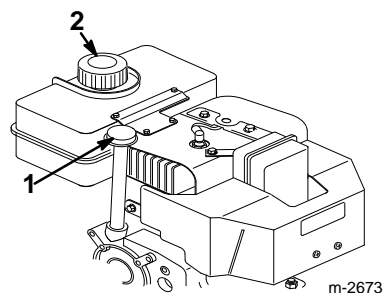

Figure 17
2. Clean the area around the dipstick (Fig. 17).
3. Remove the dipstick from the crankcase (Fig. 17).
1. Clean the area around the fuel tank cap (Fig. 17).